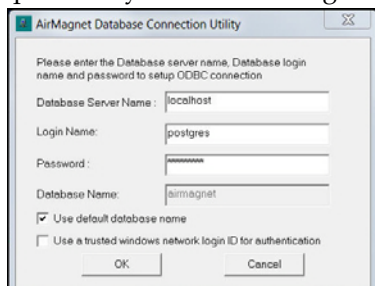

Figure 2-3: Configuring database server connection
- 6) Read the message, and click **OK**. The AirMagnet Database Connection Utility screen appears. The type of connection utility presented depends on the database option previously selected. See Figure 2-3.